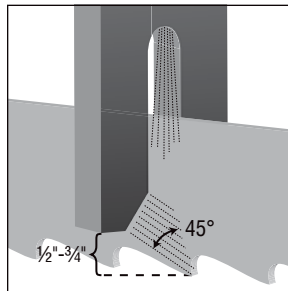

Figure 3.
2. Make sure the nozzle is $\frac{1}{2}$ " to $\frac{3}{4}$ " above the bottom of the blade; the lubricant stream should form a 45° angle with the cutting edge (see Fig. 3). Test the stream position with a piece of paper (see Step 2 of Operations, page 7).